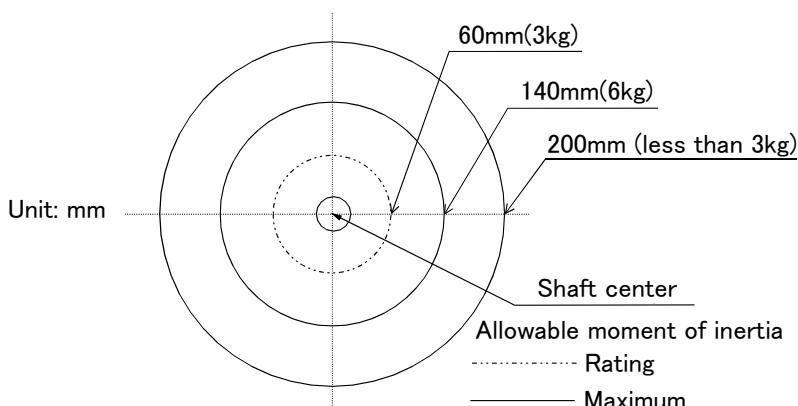
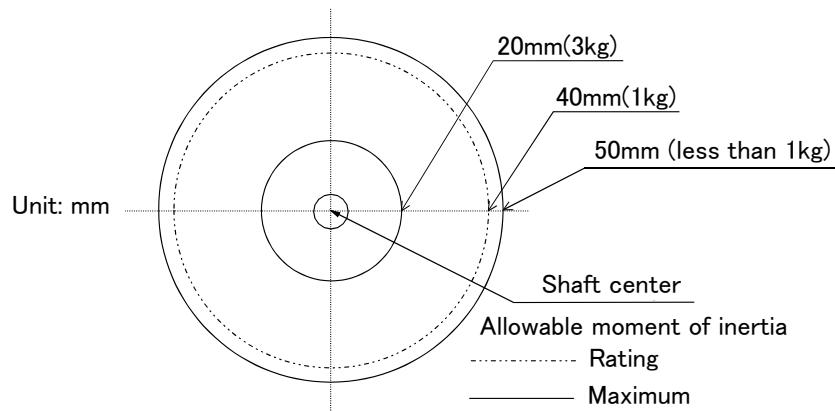

Fig.2-3 : Position of center of gravity for loads (for loads with comparatively small volume): RH-6FH series
Fig.2-6 : Position of center of gravity for loads (for loads with comparatively small volume): RH-3FHR series
- (1) The tooling should have the value less or equal than the smaller of the allowable moment of inertia found in Page 16, "2.1.1 Basic specifications".
- (2) Fig. 2-3 to Fig. 2-6 shows the distribution dimensions for the center of gravity in the case where the volume of the load is relatively small. Use this figure as a reference when designing the tooling.
Please use the robot in the allowable moment of inertia of maximum moment of inertia shown in Fig. 2-3 to Fig. 2-6.